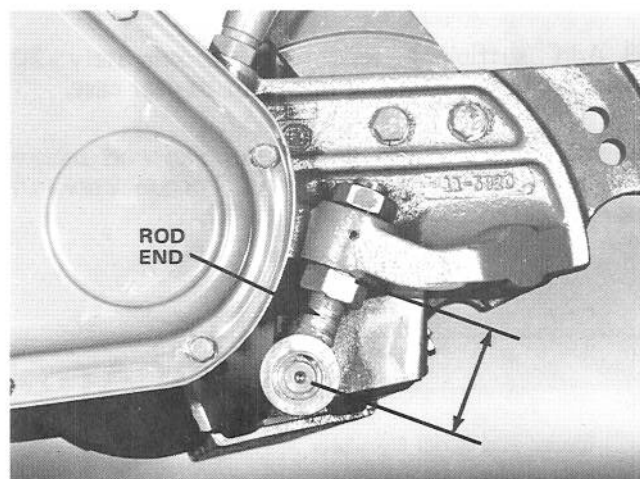

Figure 46
35. Thread bed bar pivots into bed bar. Tighten pivots to 100-150 ft-lb. Tack weld one (1) hex of each pivot to the bed bar to hold in place. Lubricate both bed bar pivots with McClube.
37. Install the bed bar between the gear cases and secure with jam nuts (Fig. 46). Do not tighten nuts.
38. As a guide, adjust rod end ends (Fig. 46) using dimensions shown in Fig. 47. Do not tighten jam nuts at this time.